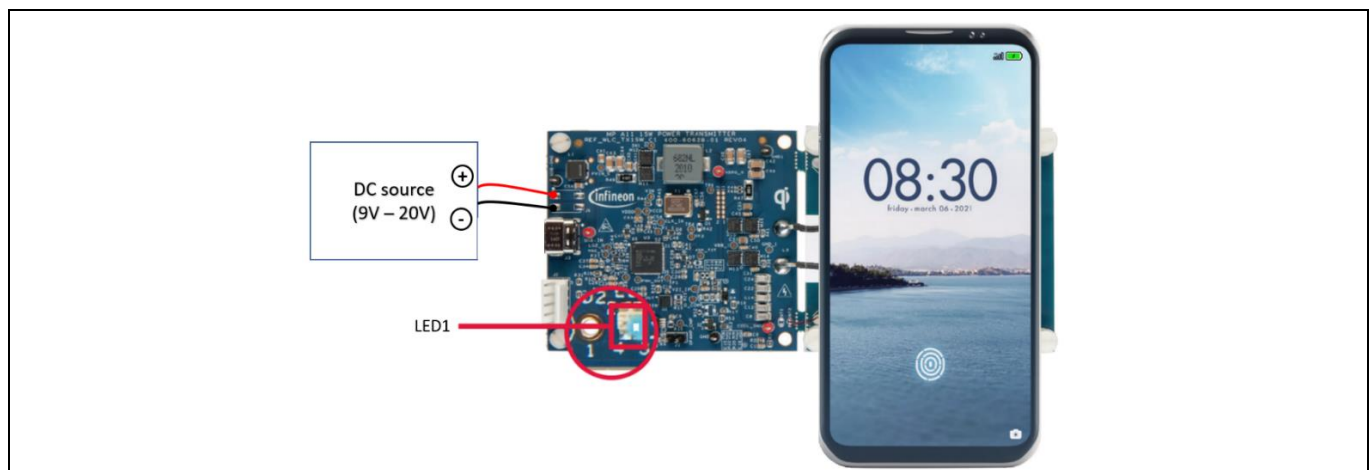

Figure 22 Charging Qi compatible phone/receiver in direct DC input mode of operation
- Provide DC input of 20-V to the REF_WLC_TX15W_C1 board and test the wireless charging functionality using a Qi-compatible phone/receiver, as shown in **Figure 22**. The status LED indications for various system states listed in **Table 4** are also applicable for the DC input mode of operation.